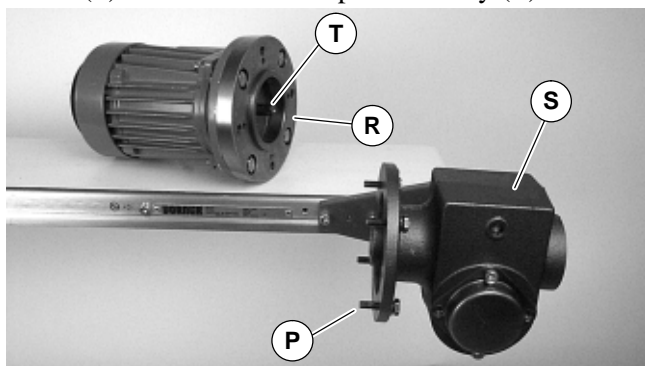

Figure 20
3. Remove four (4) screws (P of Figure 20). Detach motor with adapter flange (R) from gear reducer (S). Retain motor output shaft key (T).